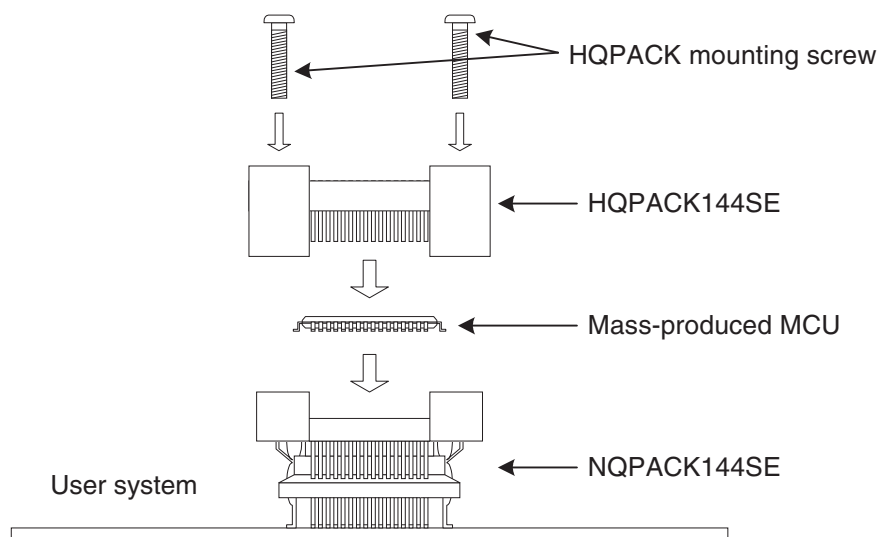

Figure 3-1 Mounting a mass-produced MCU
- To mount a mass-produced MCU on the user system, match the index mark (▲) on the NQPACK mounted on the user system with the index mark (●) on the mass-produced MCU. Confirm that the mass-produced MCU is correctly mounted on the NQPACK. Next, match the index mark (single part with straight marking) of the NQPACK with the index mark of the HQPACK, and insert the HQPACK. Then secure them with four screws. (See Figure 3-1.)